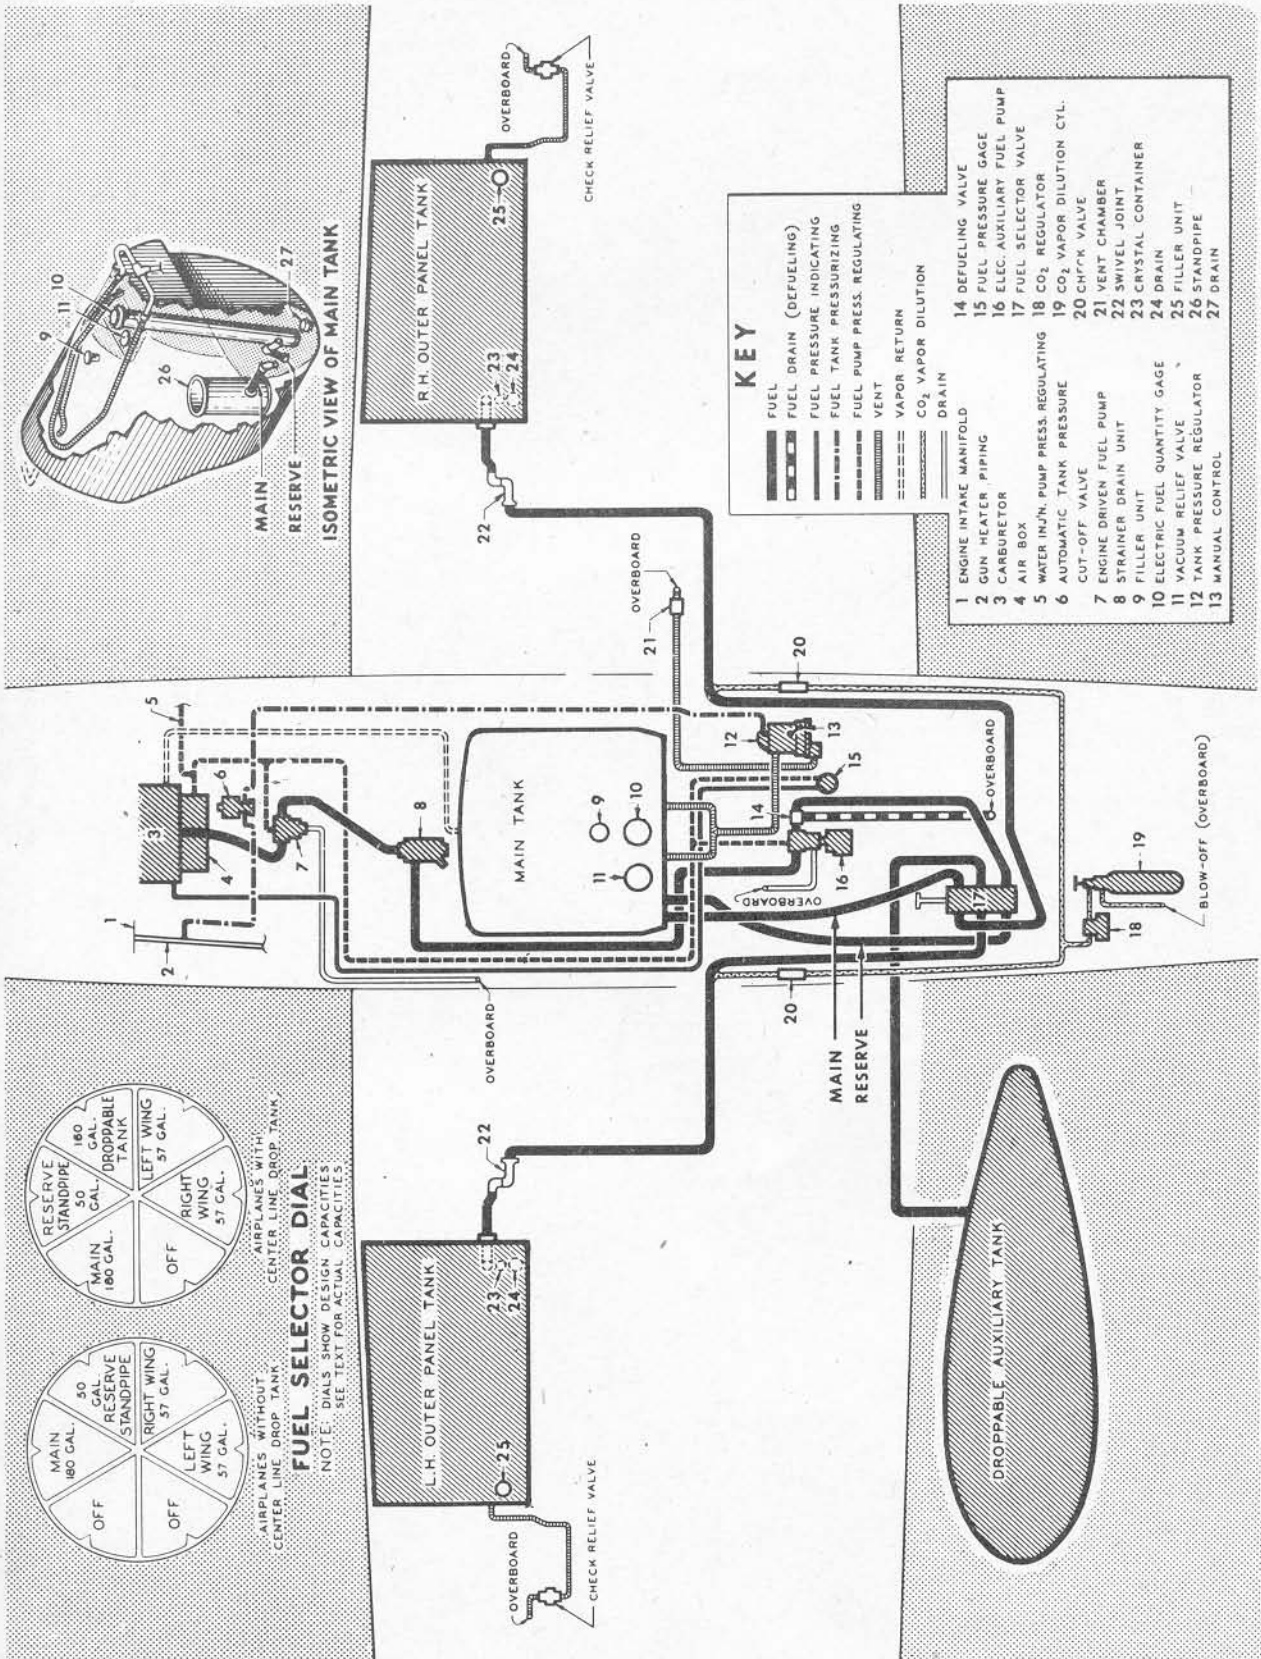

Figure 8—Fuel System Control Diagram on Airplanes Prior to Installation of Twin Pylon Droppable Tanks
(1) GENERAL.—The fuel system controls are shown on figures 8 and 9.
(3) FUEL SELECTOR.—The fuel selector is located on the left hand shelf in the cockpit. For fuel selector positions see figures 8 and 9.
(4) FUEL QUANTITY GAGE.—An electrical fuel quantity gage is provided for the main tank only; it shows the total quantity of fuel in the tank, including the standpipe reserve. The gage dial is calibrated to indicate correctly with the airplane in level flight at approximately 175 knots indicated air speed, normal fighter load.
(5) ELECTRIC AUXILIARY FUEL PUMP SWITCH.—This switch is located on the left hand shelf (see Section II, paragraph 4.b.(4), for operation).
(6) PRESSURE REGULATOR CONTROL.—The manual control for the main tank pressure regulator is located on the forward right hand side of the cockpit